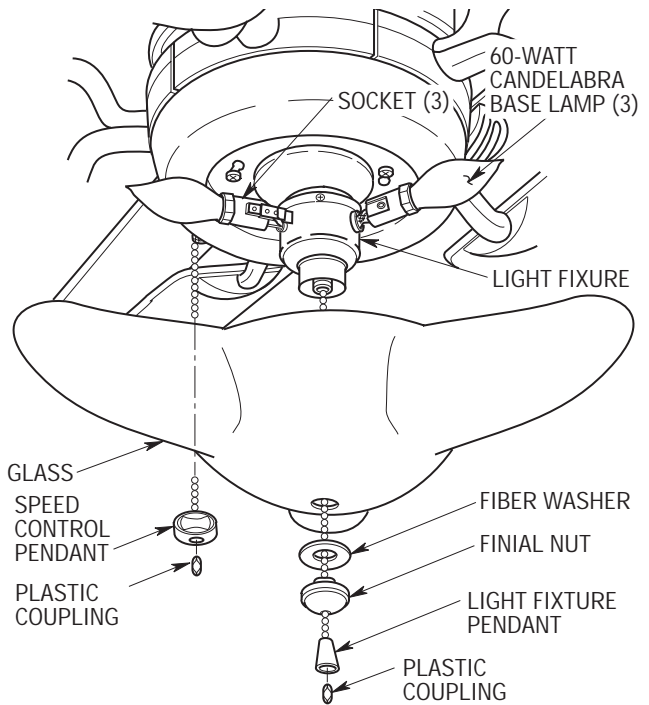

Figure 22
- 6. Screw three candelabra base lamps (60-watt each max.) in the light fixture sockets. Pass the light fixture switch chain through the light fixture glass (Figure 22). Position the glass on the light fixture so that the three elongated points of the glass are over the three lamps. Install the fiber washer and the finial nut (supplied) to hold the glass on the light fixture. Securely tighten the finial nut.
- 7. Slip the speed control switch pull chain through the hole in the oval pendant (supplied), then secure the pendant by snapping the plastic coupling (supplied) onto the end of the chain (Figure 22). Repeat this procedure to connect the pendant to the light switch pull chain.